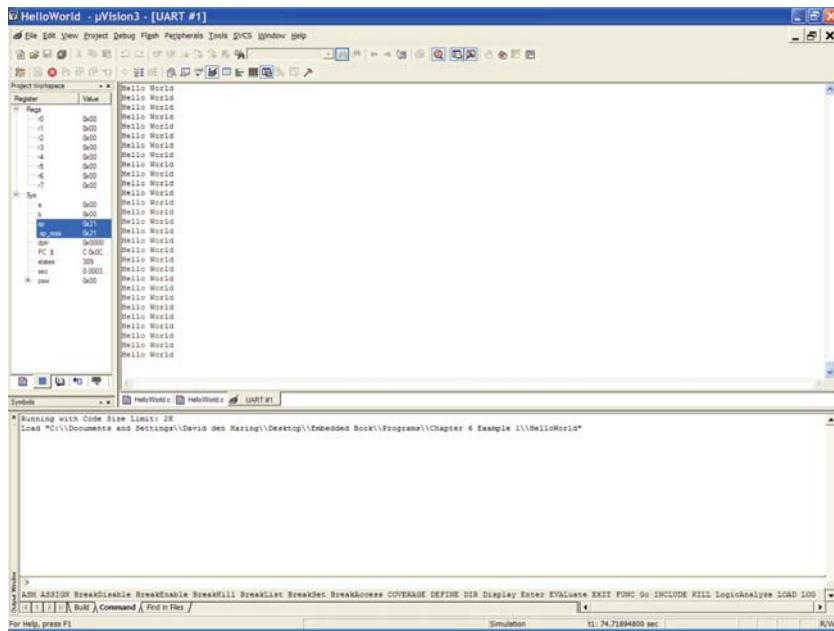

Fig. 6.9 Hello World screenshot using STDIO
3. View the output of the program. Select *View → Serial Window → UART #1*. The string “Hello, World!” should be displayed in this window. See Figure 6.9 for a screenshot.